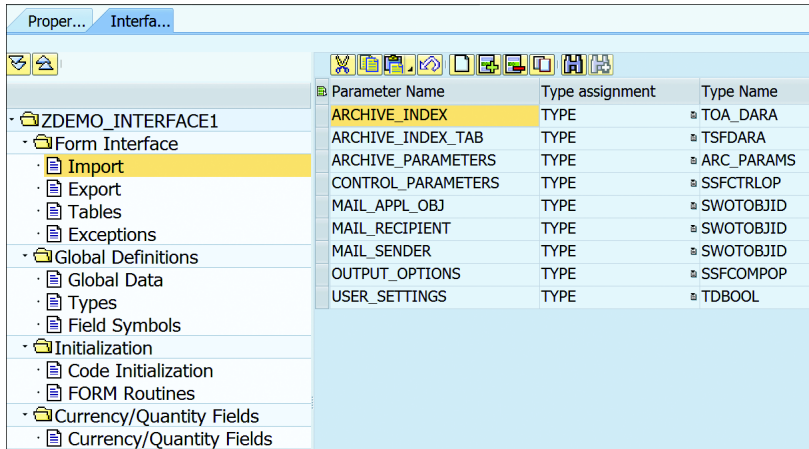

Figure 18.67 Smart Forms-Compatible Interface
- ▶ **SMART FORMS-COMPATIBLE INTERFACE:** This interface type allows you to define an interface that is compatible with applications that have used smart forms previously. The interface defines the parameters that are similar to smart forms; for example, in Figure 18.67, you can see that the TABLES option is added to the FORM INTERFACE node and to the default importing parameters of the smart form.